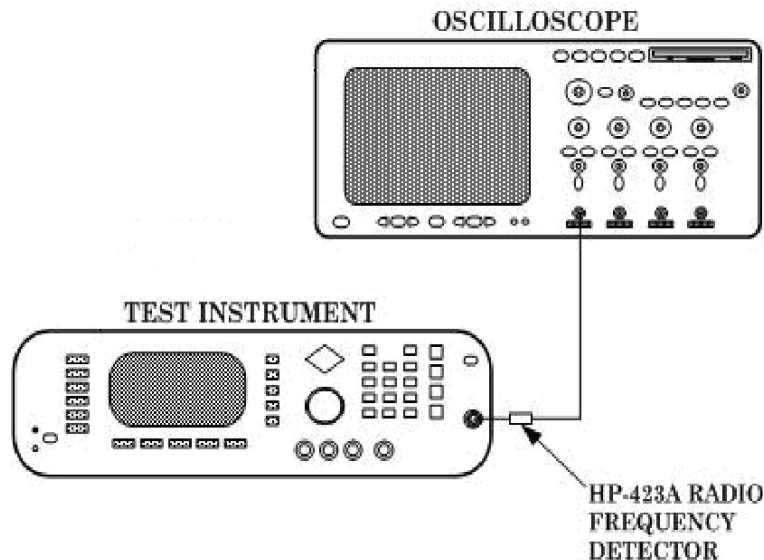

Figure 7. Pulse modulation hook-up.
(1) Connect equipment as shown in figure 7 below.